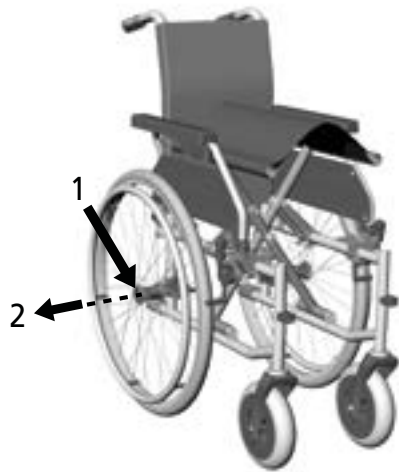

fig. 15
1. Use your thumb to press the lock button of the quick-release axle in the centre of the wheel hub (1, fig. 15).
3. Pull the rear wheel with the quick-release axle out of the axle holder (2, fig. 15).